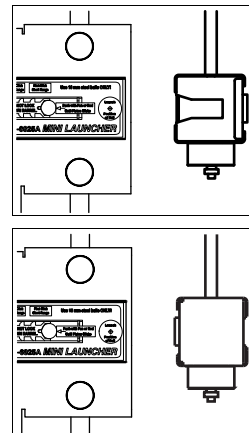

Figure 5: Pendulum aligned with launcher, catcher side (top) and bumper side (bottom)
5. Adjust the position of the RMS so the pendulum is aligned with the launcher as shown in Figure 5.